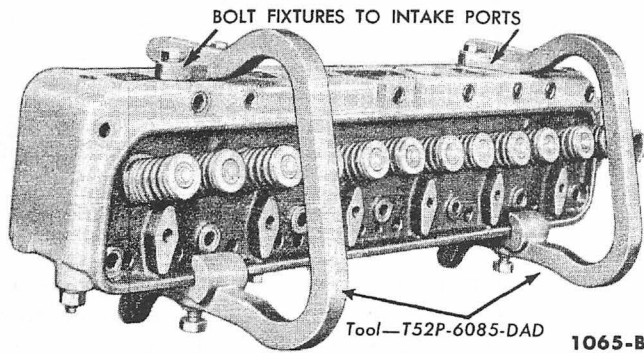
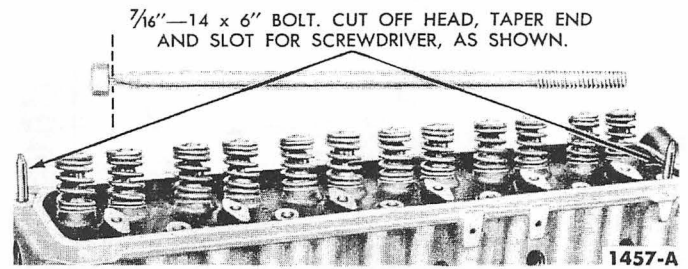

Fig. 14—Cylinder Head Holding Fixture
Fig. 15—Cylinder Head Guide Studs
5. Remove the manifold to cylinder head bolts, and pull the manifold assembly away from the cylinder head. Brace the assembly so the oil inlet pipe will not be damaged. Install the cylinder head holding fixtures for convenience in lifting the head and to protect the gasket surfaces (Fig. 14). Remove all cylinder head bolts. Install the cylinder head guide studs (Fig. 15). Lift the cylinder head assembly off the engine. *Do not pry between the head and block as the gasket surfaces may become damaged.*